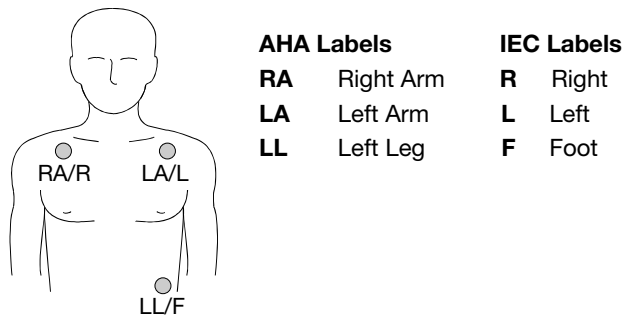

Figure 3-2 Connecting the ECG Electrodes for use with ECG cable
- 2 Apply ECG electrodes to the patient's chest as shown in Figure 3-2